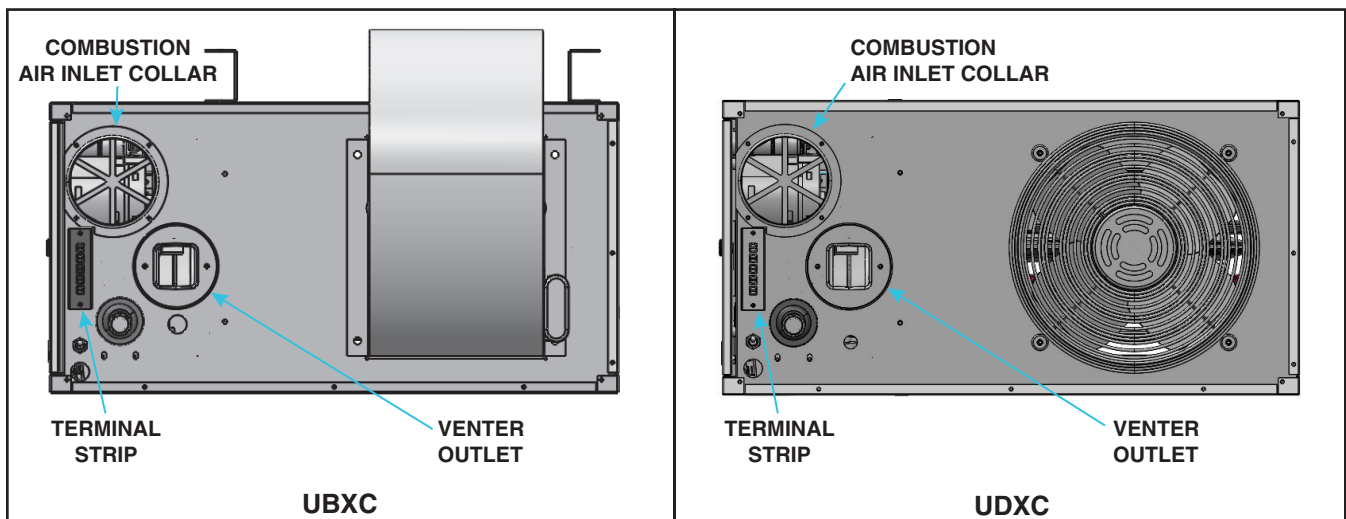

Figure 2. Conversion Kit Connections (Typical)
- c. Connect one end of red door safe switch wire from kit to terminal R on terminal strip (see Figure 2).
5. Install combustion air inlet collar and gasket (see Figure 2) on combustion air opening and secure using screws.